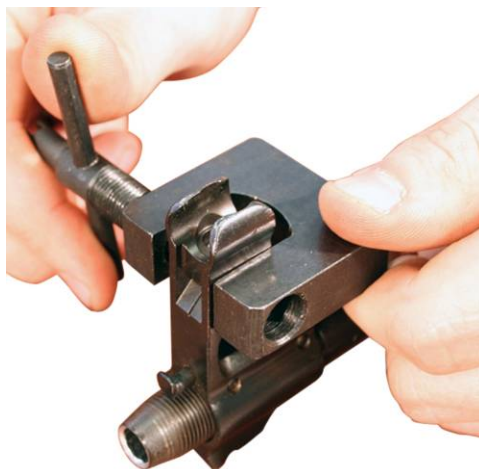

Figure 4. Removing the Windage Drum.
- c. Use the front sight adjustment tool to remove the windage drum. Place the ends of the clamp on either side of the windage drum and turn the handle to push the drum out of the front sight base and through the hole in the front sight adjustment tool. Refer to Figure 4.